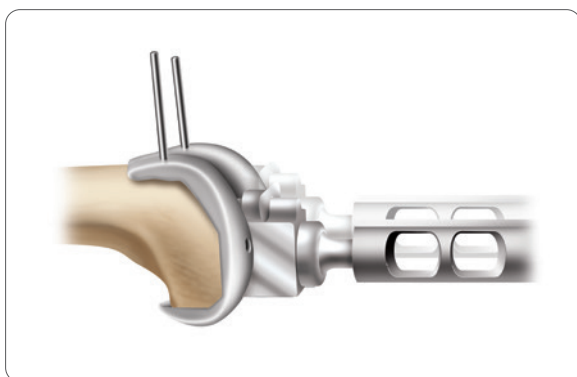

Figure 53
4. Impact the Housing Box Chisel through the Housing Resection Collet to square the corners of the housing. The Housing Box Chisel should be used anteriorly and then posteriorly to ensure that the full length of the box is prepared (**Figure 53**).